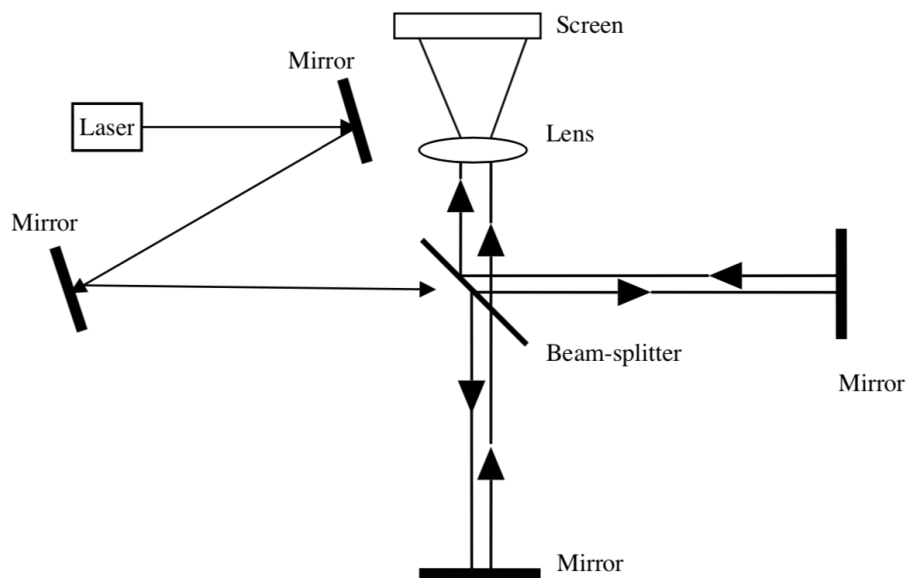

Figure 1 Top-view schematic of Michaelson interferometer with two additional mirrors for steering the beam.
- Set up a Michelson interferometer equivalent to the one shown in Figure 1. You have been provided 4 mirrors, 1 beam splitter, and one lens. There is also a special moveable base – the “DAEDAL base”. Use this DAEDAL base to hold the mirror on one of the two paths (also called arms) of the interferometer. We will be able to adjust the path length difference between the two arms with the DAEDAL base next week.